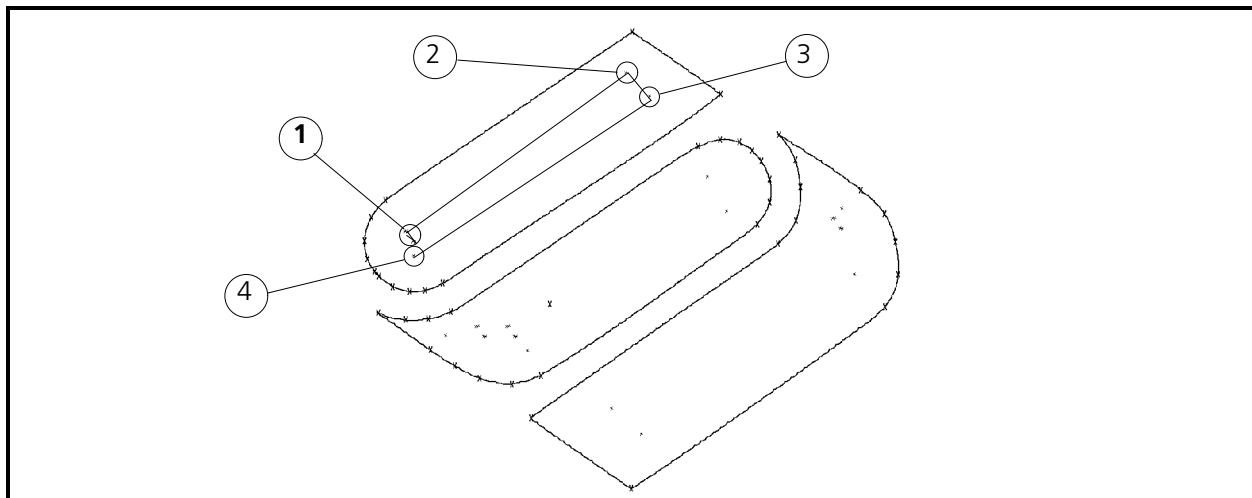

Figure 6-72
4. Locate the file named sfill.pcx and load it into the EDS III Object Edit window. When loaded properly the image on the display will look similar to the illustration in Figure 6-72.
4. Click in the area in the shape identified as location 1 in Figure 6-72 and enter a Mk1.
6. Generate the lock stitches, then put down a running stitch underlay by entering Mk1s at locations 2 through 4 as shown in Figure 6-72.